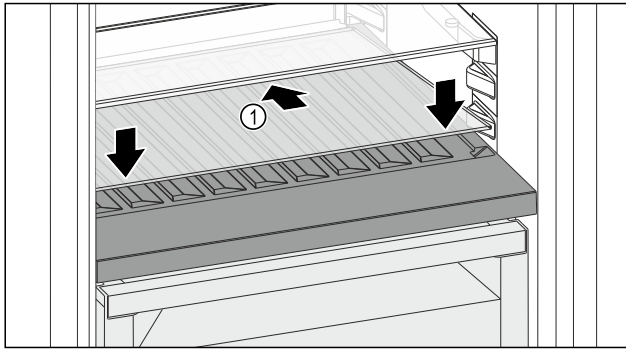

Fig. 190
- Place the glass shelf Fig. 190 (1) at an angle, sloping it downwards and backwards.
- Lower the glass shelf Fig. 190 (1) at the front.